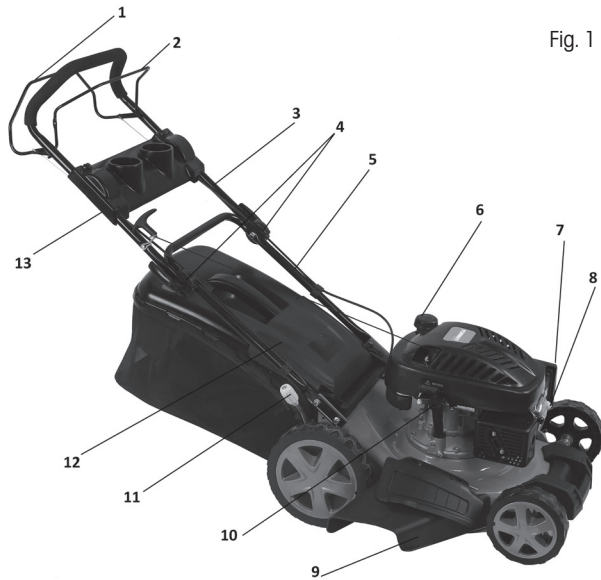

Fig. 1
3. DESCRIPTION OF THE LAWNMOWER (Fig. 1)
After unscrewing the fuel tank cap (Fig 1 – point 6), add the fuel, pouring it in all the way up to the collar of the fuel tank but do not overfill it.
The mowing height is set centrally using the central mowing height adjustment lever (Fig. 1 – point 11). You can select from 5 positions in the range of 25 to 75 mm. The middle mowing height is the most suitable for the majority of lawns.